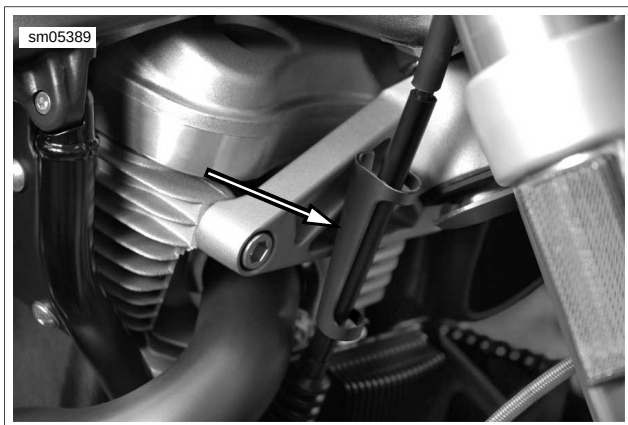

Figure 3-41. Clutch Cable Bracket
29. See Figure 3-41. Pull clutch cable back up into the proper position and connect to handlebars and adjust to specifications. See 1.8 CLUTCH/TRANSMISSION/PRIMARY FLUID..